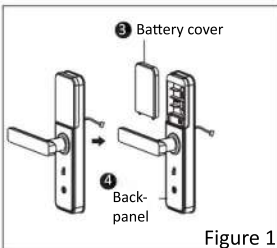

Figure 1
- As shown in Figure 1
- (1) The back panel consists of two parts: the back panel and the battery cover.